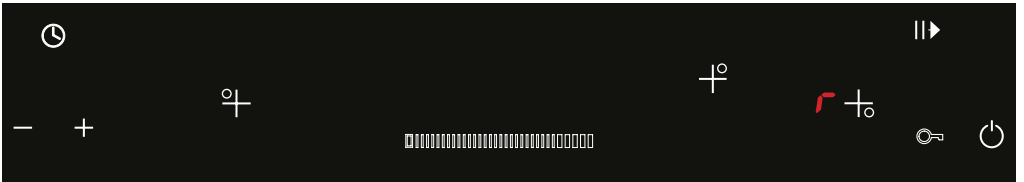

Figure 37
**WARNING:** Setting the temperature level above the power limit set is not allowed. In such a case, the **r** warning is given within 3 seconds on the relevant hob and a **beep** is sound. (See Fig. 37)